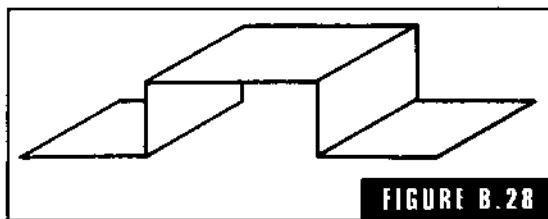

FIGURE B.28
**bridge chaplet** Bridge chaplets are made of 20 gauge cold rolled steel and hot dip tinned or copper plated (Fig. B-28). An economical chaplet for use in castings where the conditions under which the chaplets are used are not severe.